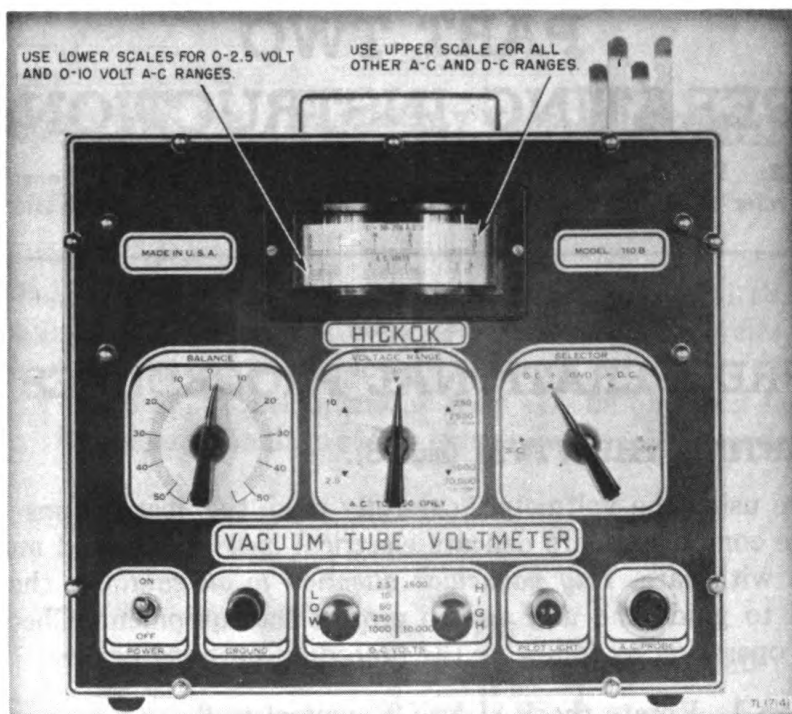

Figure 5. Vacuum tube voltmeter, panel view.
9. STARTING THE VTVM (fig. 5).
(1) To measure d-c voltages having values between 0 and 1,000 volts, connect d-c test leads to the LOW and GROUND terminals (fig. 5).
(2) To measure d-c voltages having values between 1,000 and 10,000 volts, connect d-c test leads to the HIGH and GROUND terminals (fig. 5).
(3) To determine the approximate value for an unknown d-c voltage, always set the VOLTAGE RANGE switch at the 1,000-10,000 position before connecting test leads to the voltage source. The VOLTAGE RANGE switch can then, if necessary, be rotated to progressively lower voltage positions until the meter pointer swings upscale.